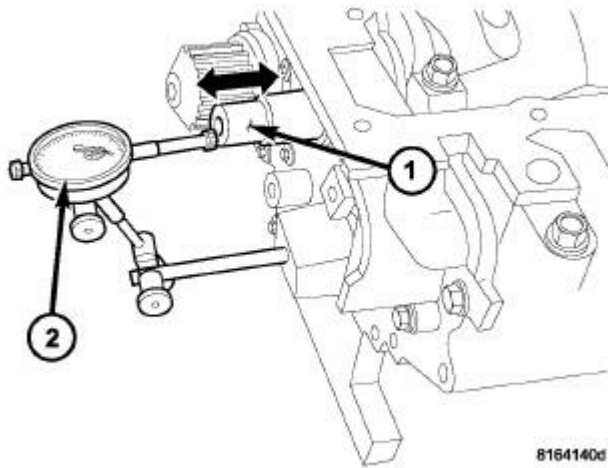

Fig. 168: Checking Crankshaft End Play Using Dial Indicator
1. Mount a dial indicator (2) to front of engine with the locating probe on nose of crankshaft (1). Refer to **Fig. 168**.